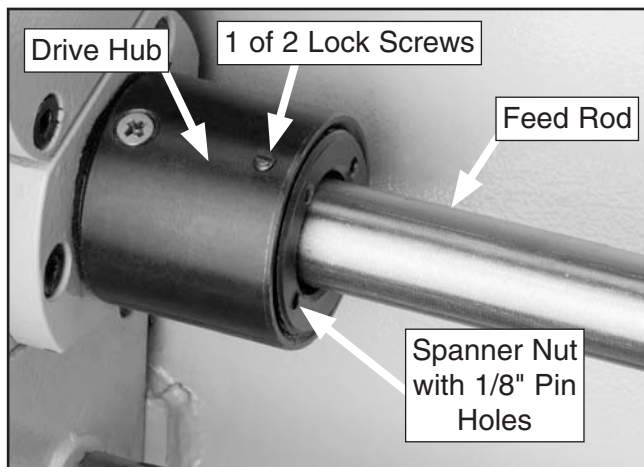

Figure 104. Feed rod clutch.
This lathe is equipped with a feed rod clutch, shown in **Figure 104**, that connects the feed drive hub with the feed rod through a set of spring-loaded internal discs. This clutch helps protect the apron feed system from overload. The feed rod clutch comes set from the factory, and unless there is a problem, it needs no adjustment.
2. Rotate the feed rod hub shown in **Figure 104** to access and remove the two lock screws.